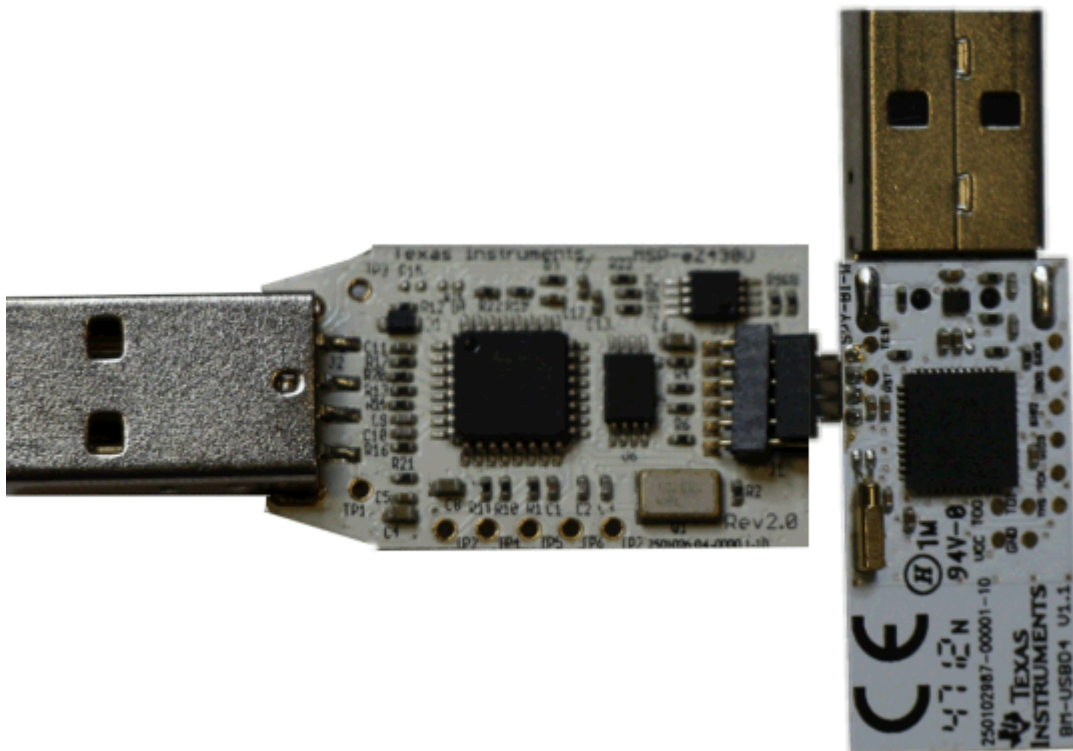

Figure 3-15. Upgrade AP Firmware
1. As shown in Figure 3-15, solder the 4-pin debugger connector (provided with the kit) onto the access point.